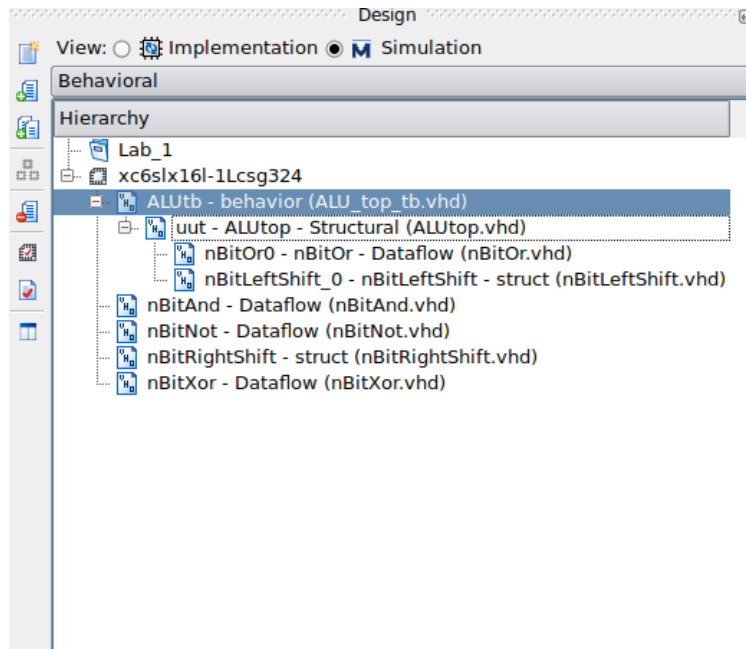

Figure 5: Simulation Selection
- (a) There must be a completed test bench for simulation to work properly. Select “Simulation”, as seen in Figure 5.